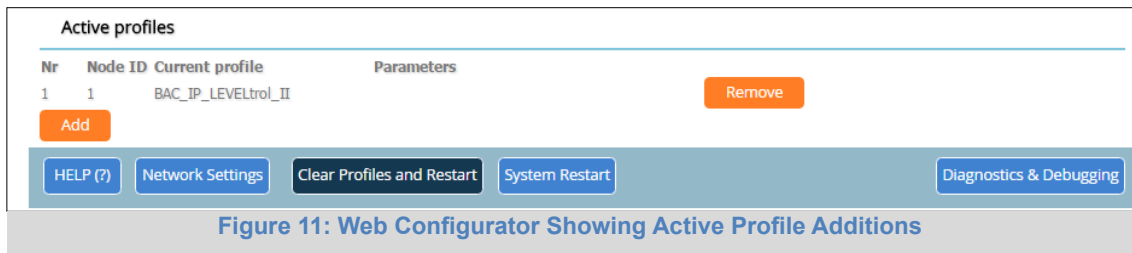

Figure 11: Web Configurator Showing Active Profile Additions
- Completed additions will be listed under “Active Profiles” as shown in **Figure 11**.